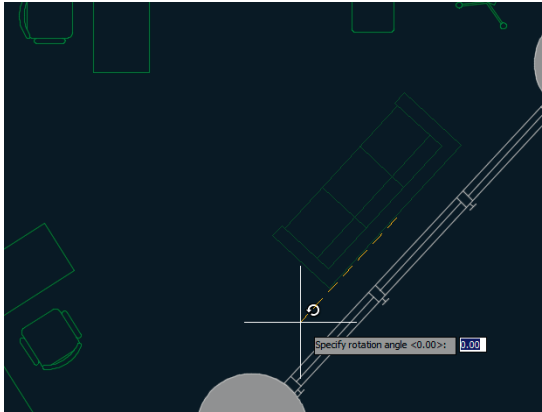

FIGURE 9.10 Inserting Sofa2 again as a local block
8. Click approximately where you deleted the armchairs and side table to insert a Sofa2 block reference in the drawing, and rotate it so that the sofa is again parallel to the exterior wall (see Figure 9.10).